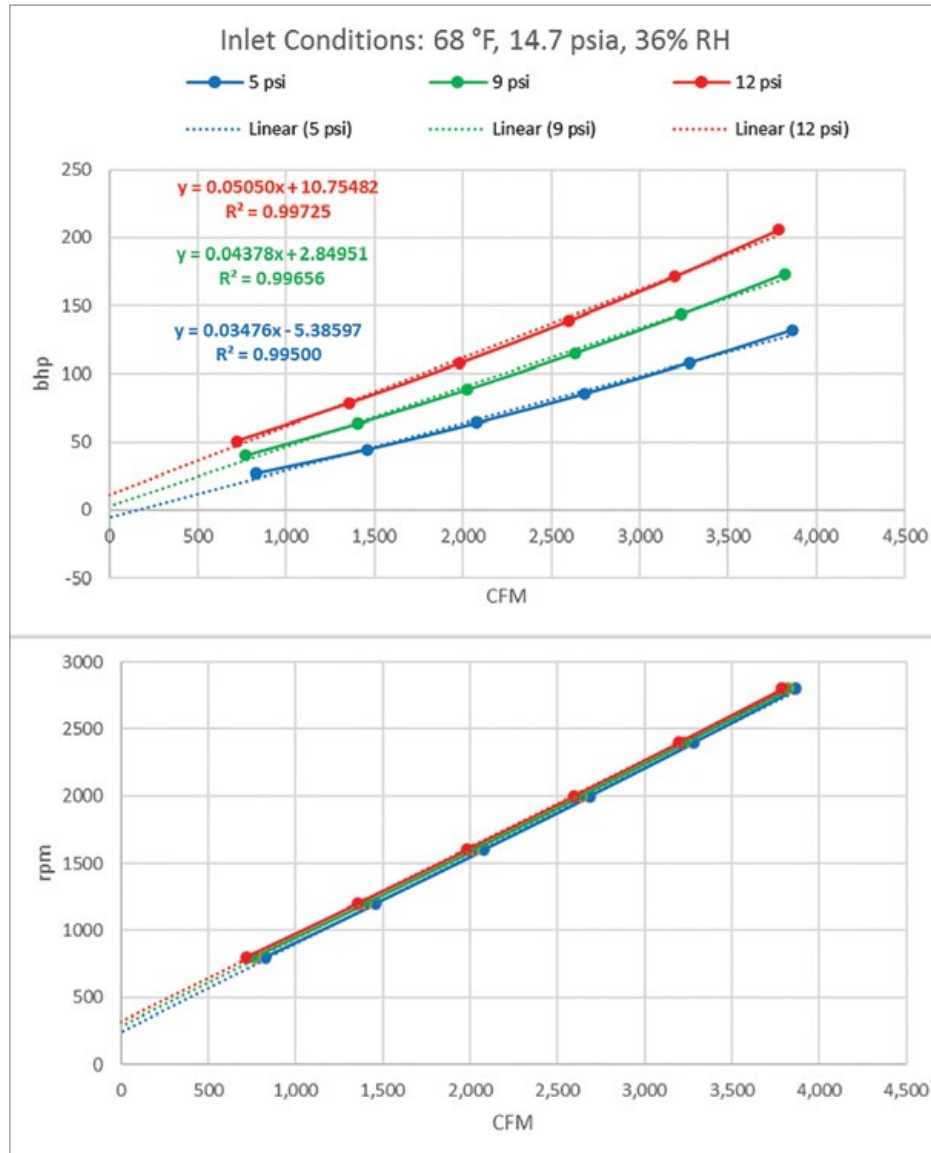

Figure 3: Example Screw Blower Performance
- Linear performance: For a fixed pressure differential the relationship of power to air flow can be expressed in a linear equation using the form $y = mx + b$. Note that the intercept is typically non-zero. [See Figure 3.]
The performance characteristics may be provided as a family of curves. [See Figure 3.] It is also common for performance data to be tabulated. [See Figure 4.]